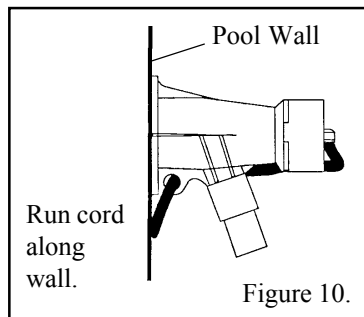

Figure 10.
11. Snap cap onto end of body and turn so that the electrical cord is pointing down; see Figure 10.